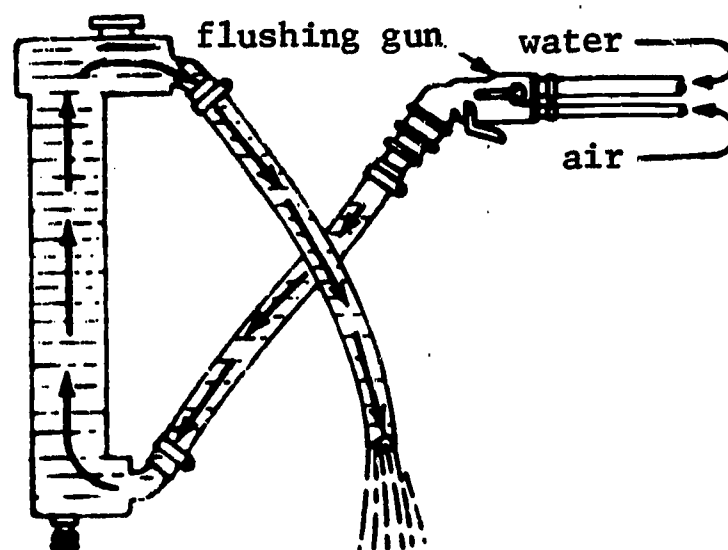

Fig. 11 Reverse flushing the radiator.
**REVERSE FLUSHING** - Disconnect the hoses at the engine, tighten the radiator cap and clamp the flush gun in the lower hose. Use a hose clamp to secure the flushing gun in place. The hoses supplied on the vehicle can be used for this operation, but it is usually more convenient to use longer lengths, as shown-see Figure 11. Fill the radiator with water and apply air pressure carefully and intermittently for two or three seconds at a time to avoid radiator damage. Repeat until the water turns clear. Be sure to clean and inspect the radiator cap; see Figure 11.